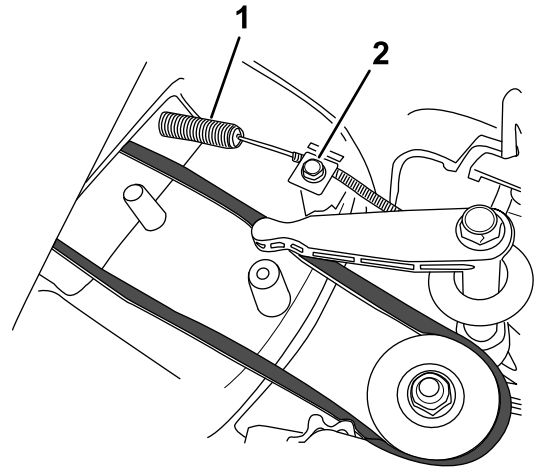

Figure 32
4. Install the new blade-brake cable, but do not tighten the cable clamp on the top of the mower housing (Figure 32).
5. Loosen the cable-clamp screw (Figure 32).